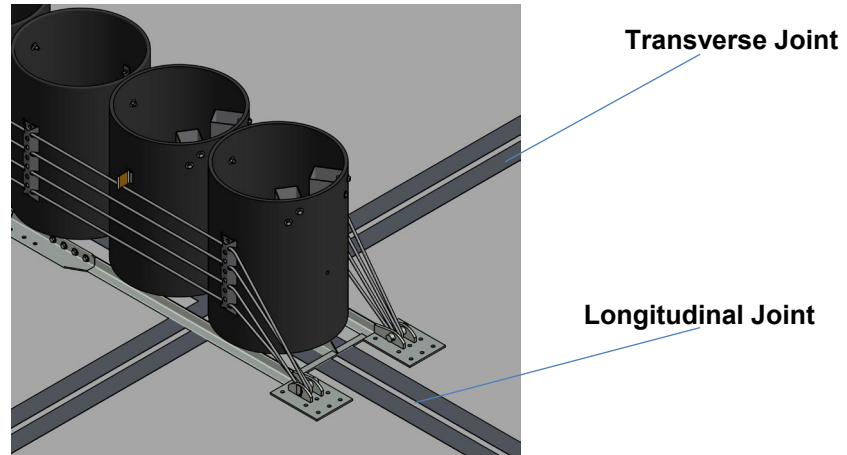

Figure 21
1. Ensure the nose cover suits site conditions (Figure 21).